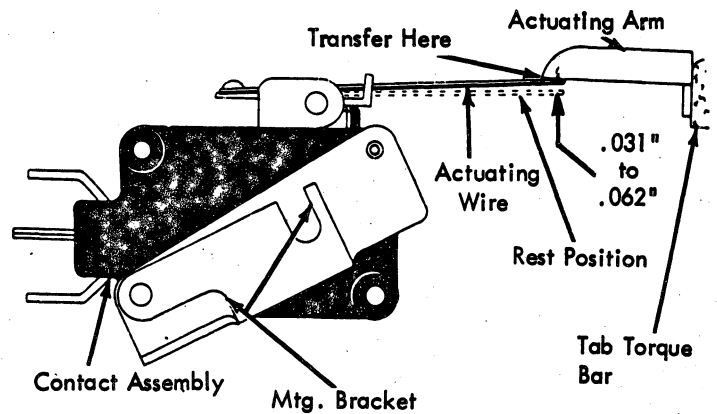

FIGURE 244. Interlock Contact
- As the tab torque bar restores, position the mounting bracket (up or down) so that the contact actuating wire travels $.031''$ to $.062''$ after the contact transfers (Fig. 244). This is done to insure that machine vibration does not cause the contact to transfer.